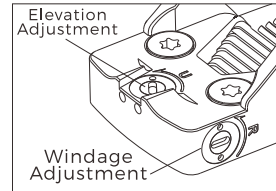

Fig 7
3) Adjustment can be performed by inserting the flat tipped end of the included tool into the turret slot and rotating. See Fig 7.